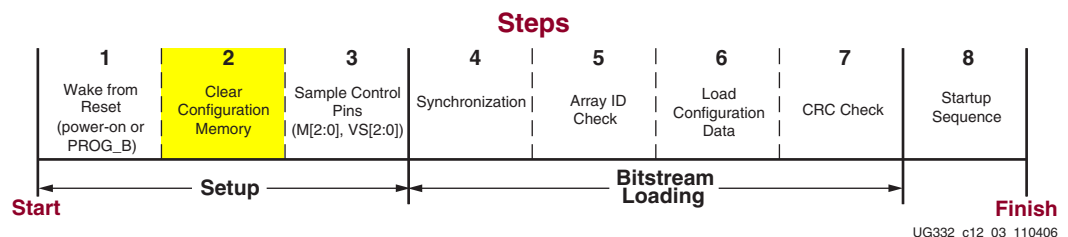

Figure 12-5: Clear Configuration Memory (Initialization)
2. Hold the `INIT_B` pin Low during initialization, which stalls the configuration process in Step 2 shown in Figure 12-5, page 228. However, after the FPGA releases `INIT_B` High, the application cannot subsequently delay configuration by pulling `INIT_B` Low.